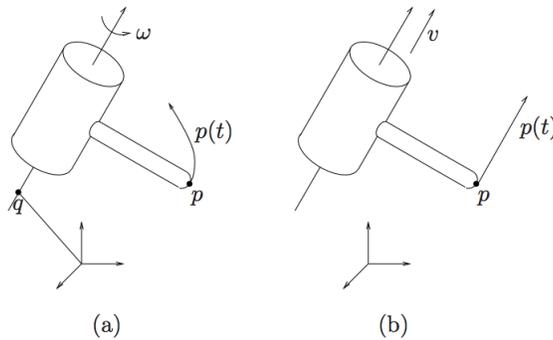

Figure 3: a) A revolute joint and b) a prismatic joint.
Most modern robotic rigid body transformations are enabled by *joints*, which connect sets of rigid *links* together. In this class, we focus on two types of joints — *revolute* and *prismatic* joints (see Fig. 3). Revolute joints allow adjacent links to rotate relative to each other about a fixed axis, and prismatic joints allow links to move linearly relative to each other along a fixed axis.
**Exercise:** Write the expressions for the velocity of the point  $p$  (ie.  $\dot{p}(t)$ ) when attached to the revolute joint and attached to the prismatic joint in Fig. 3. Assume that  $\omega \in \mathbb{R}^3$ ,  $\|\omega\| = 1$ , and  $q \in \mathbb{R}^3$  is some point along the axis of  $\omega$ .